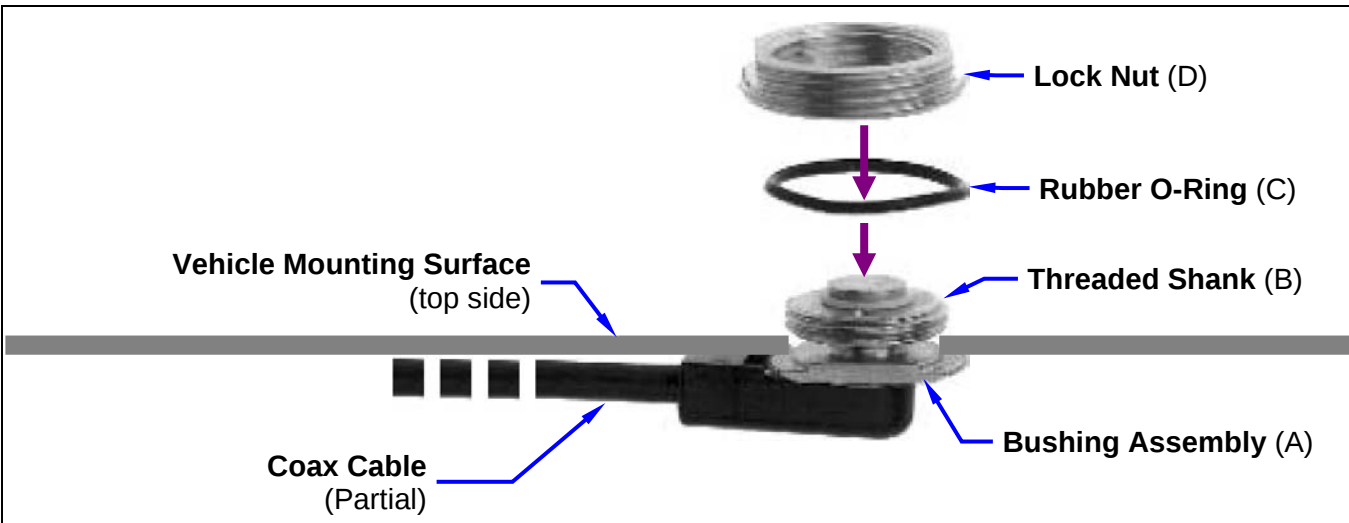
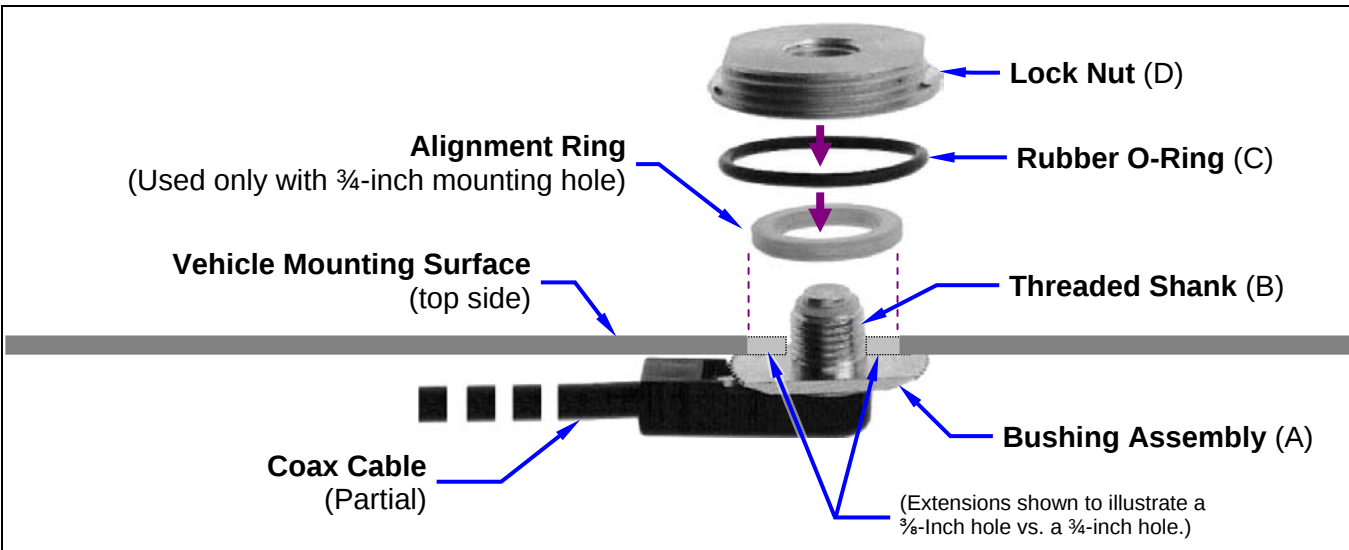

Figure 7-5: Installing a Standard $\frac{3}{4}$ -Inch NMO Antenna Mount
Figure 7-6: Installing a Thick-Roof NMO Antenna Mount
11. As illustrated in Figure 7-5 and Figure 7-6, add the O-ring (C) and lock nut (D) to the top of the mount's bushing assembly (A). With the O-ring in the groove in the underside of the lock nut, thread the lock nut onto the bushing assembly. Be sure the O-ring remains in the groove before tightening the lock nut.
2. Place the gasket included with the antenna element (not pictured in Figure 7-5 or Figure 7-6) around the mount and against the surface of the vehicle. If a lubricant or sealant was included with the gasket, apply it to the gasket before placing the gasket.